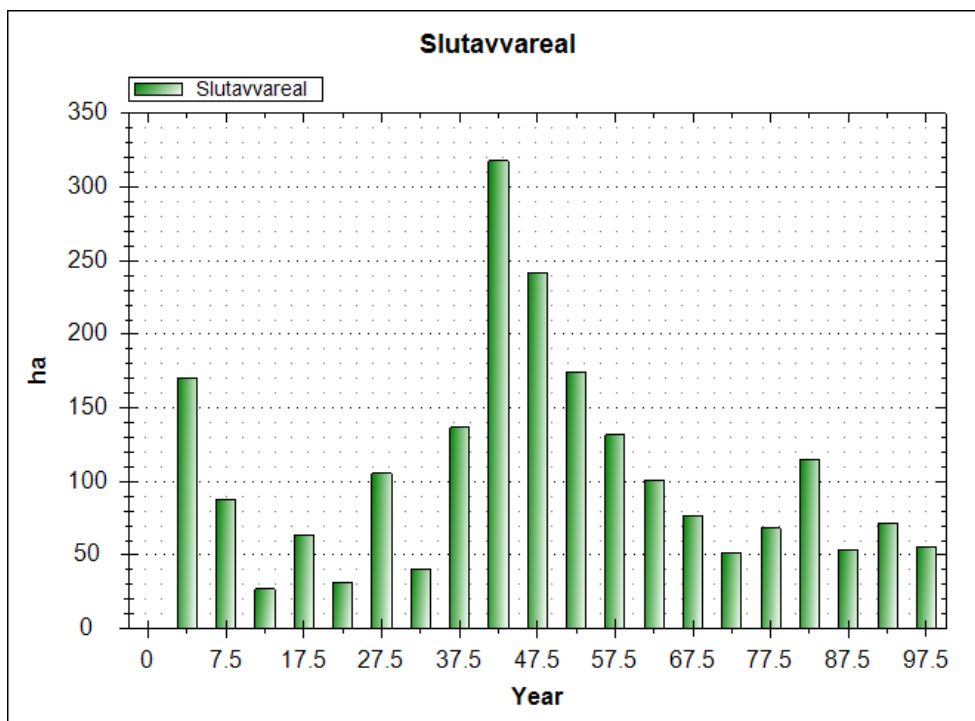

Figure 12
- The click Add conditions, choose Select variable... and then Treatments > Treatment, use the expression "In Final felling" and "In Final felling with seed trees/shelterwood" (but not "In Removal of seed trees/shelterwood" because then there would be double counting of the area with seed trees/shelterwood). Enter an Alias, e.g., "AreaFF". This report sums the area of final felling (in hectares) in each period and may look like figure 12.